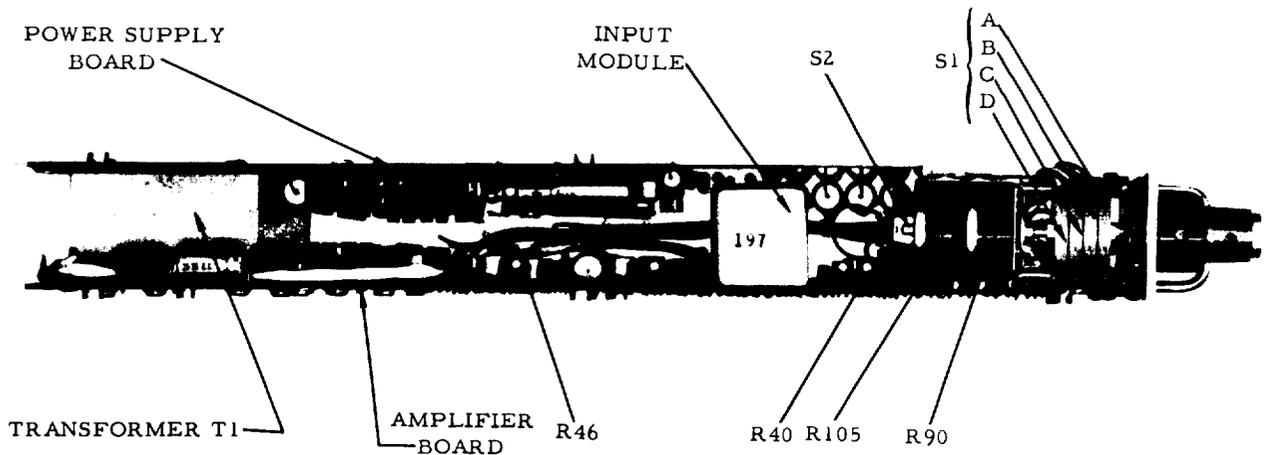

Figure 9. Top View of Model 1300 Differential DC Amplifier (Case Removed)
3.3 Functional Operation of Major Assemblies (Figure 12). Most of the circuitry for the model 1300 amplifier is mounted on two etched circuit boards designated as the amplifier board and power supply board, respectively. (See figure 9.)
- (3) Plug the amplifier into a single unit adapter, apply primary power and allow a 30-minute warmup period.
- (4) Connect the amplifier output to a digital voltmeter (Cubic Model V71 or equivalent) and check that the amplifier output is within ± 2 mv of ground for each position of GAIN selector switch S1.
- (5) If the output exceeds ± 2 mv, adjust potentiometer R46 (figure 9) as required. If the amplifier output cannot be adjusted to within ± 2 mv by means of R46, the amplifier should be returned to the factory for maintenance.
- (6) Disassemble the test setup.